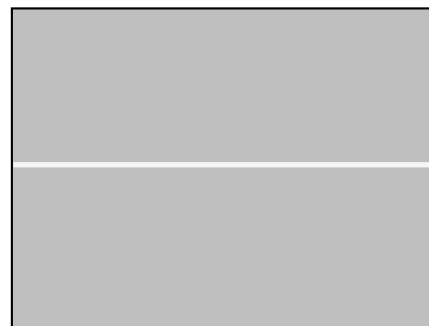

Fig.2-2
- 2-2. Using the volume keys on the jig remote controller, fix the figure of the brightest color on the screen to the level 127 and adjust the other 2 cut off figures until a white picture appears on the screen. (Fig. 2-2)
2. Press "0" key of 10 numeric keypad to display a horizontal single line on the screen. (Fig. 2-2)